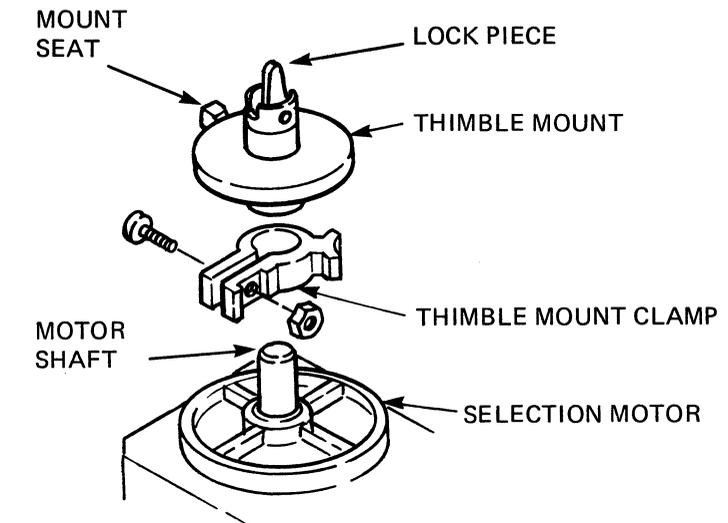

Figure 5-3 Thimble Height Adjustment Components
- b. Loosen the screw on the thimble mount clamp (see Figure 5-3), then tighten the screw just enough to lock it in place on the motor shaft.